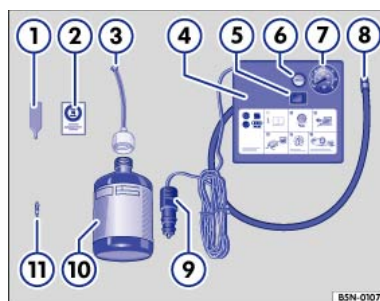

Fig. 249 The breakdown set.
The breakdown set is located underneath the floor covering in the luggage compartment. It includes the following components → Fig. 249 :
- Use the valve core extractor ⇒ Fig. 249 ① to screw the valve core out of the tyre valve. Place the core on a clean surface.
- Shake the tyre filler bottle ⇒ Fig. 249 ⑩ vigorously up and down several times.
- Screw the filler hose ⇒ Fig. 249 ③ tightly onto the tyre filler bottle in a clockwise direction. The plastic foil on the plug is pierced automatically.
- Remove the plug from the filler hose ⇒ Fig. 249 ⑦ and place the open end fully on the tyre valve.
- Use the valve core extractor ⇒ Fig. 249 ① to screw the valve core back onto the tyre valve.
- Screw the tyre filler hose ⇒ Fig. 249 ⑧ of the air compressor tightly onto the tyre valve.
- Check that the bleed screw ⇒ Fig. 249 ⑥ is closed.
- Insert the 12-volt plug $\Rightarrow$ Fig. 249 ② into one of the vehicle's 12-volt sockets $\Rightarrow$ *Electrical sockets*.
- Use the on/off switch $\Rightarrow$ Fig. 249 ⑤ to switch on the air compressor.
- Run the air compressor until the tyre pressure has reached 2.0 – 2.5 bar (29 – 36 psi / 200 – 250 kPa) $\Rightarrow$ ⚠. **The maximum running time is eight minutes** $\Rightarrow$ ①.
Reconnect the tyre filler hose $\Rightarrow$ Fig. 249 ⑧ and read off the tyre pressure on the tyre pressure display ⑦.